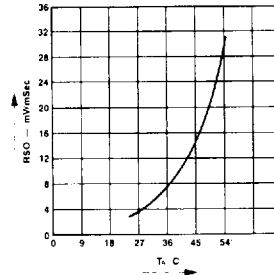

Fig. 7
15. Rate of Average-Signal Offset is caused by leakage current in the registers. It is function of temperature. See Figure 7.